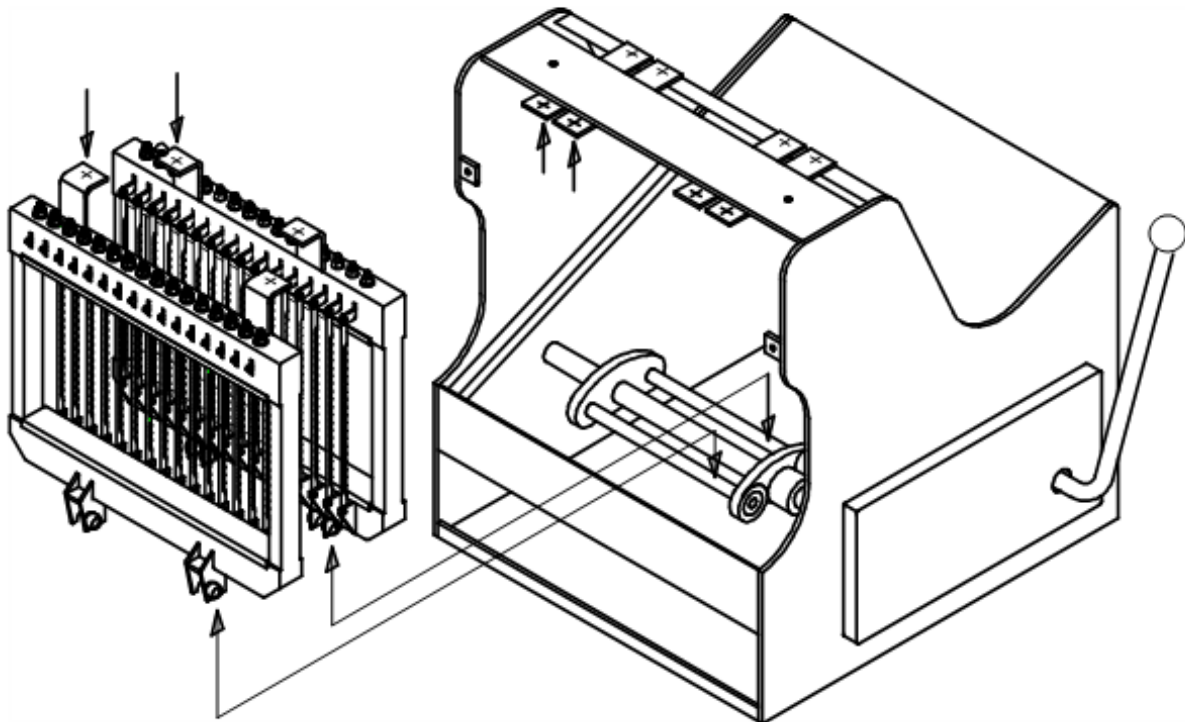

FIGURE 1.
- TO REMOVE FRONT KNIVES FRAME FOR REPLACEMENT OF BLADES, IT IS NECESSARY TO TAKE OFF THE COMPONENTS OF KNIVES FRAME (SEE FIGURE 1).